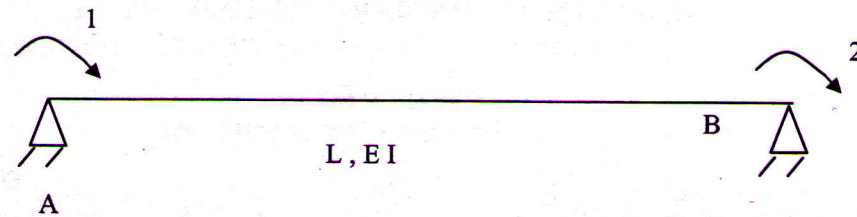

Fig. 2
- 4 a) Discuss the formation of flexibility matrix for frame element (10)
- b) Discuss basic concepts of flexibility method (5)
- 5 a) Derive the stiffness matrix for the structure with coordinates as shown in Fig.2. (5)